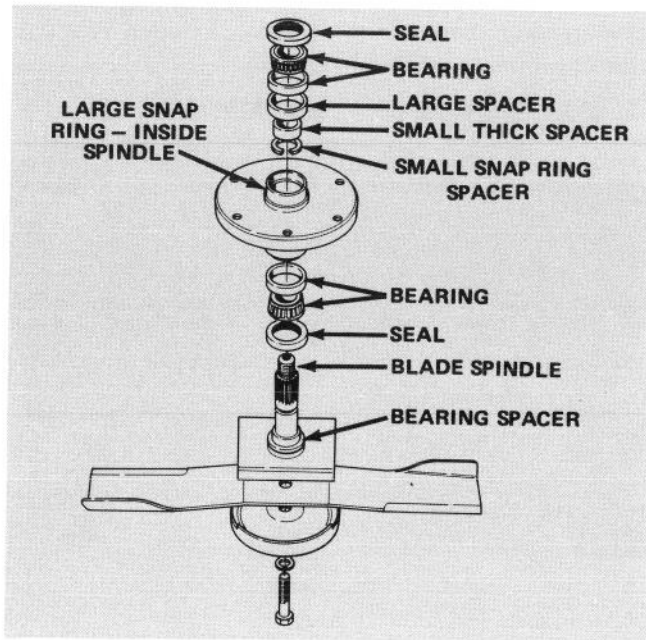
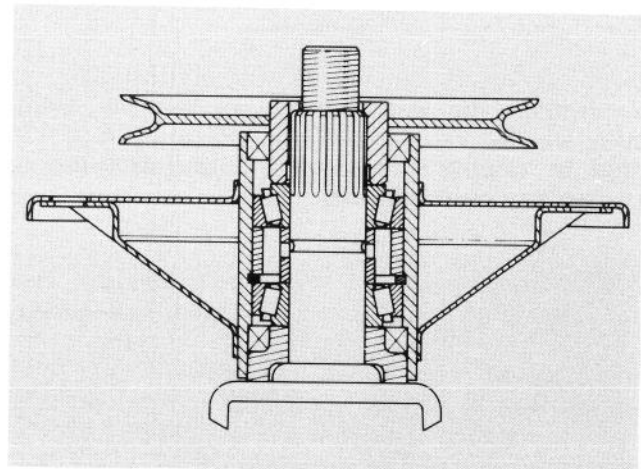
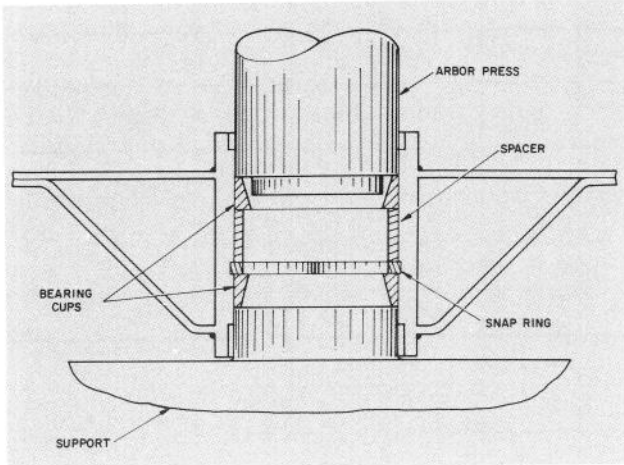

Figure 46
Figure 47
Figure 48
7. If spindle shaft will be replaced, remove blade-bolt, lockwasher, anti-scalp cup and blade from spindle shaft (Fig. 46). Otherwise, the blade and its other associated parts may be left on the spindle shaft.
8. Press spindle shaft out of spindle housing (Fig. 46) using an arbor press. Bearing spacer (Fig. 46) remains on spindle shaft as shaft is being removed.
9. The seals (Fig. 46) will be removed next; however, notice the lip of the seal. The lip of the upper seal faces inward, and the lip of the lower seal faces outward. Therefore, new seals must always be installed with the lip facing in the proper direction. Now remove seals from spindle housing.
10. Allow bearings and small thick spacer to fall out of spindle housing (Fig. 46).
11. Using a punch and hammer, drive both bearing cups (Fig. 46) out of spindle housing. Also drive large spacer (Fig. 46) out of housing.
1. Install large snap ring into groove in bore of spindle housing (Fig. 47). Assure snap ring is seated in the groove.
2. Using an arbor press, push the large spacer into top of spindle housing and tightly against the snap ring (Fig. 46). Spacer must contact snap ring to be sure of correct assembly of parts (Fig. 47).
3. Thoroughly oil cups and, using an arbor press, push bearing cups — smallest ID first — into top and bottom of spindle housing (Fig. 46). Top bearing cup must contact spacer that was installed in step 2, and bottom bearing cup must contact snap ring to be sure of correct assembly of parts (Fig. 47). Insure assembly is correct by supporting the first cup and pressing the second against it (Fig. 48).
4. Apply a film of grease on lip on both seals; then install bearing and seal into bottom of spindle housing (Fig. 46). Remember, the bottom seal must
have the lip facing outward not toward inside of spindle housing (Fig. 46).
5. Slide small, thick spacer into spindle housing (Fig. 48). Then, install bearing and seal into top of spindle housing. Lip of the seal must face outward.
7. Slide bearing spacer onto spindle shaft. Carefully slide spindle shaft through spindle housing. Bottom seal and bearing spacer fit together when spindle is installed (Fig. 47).